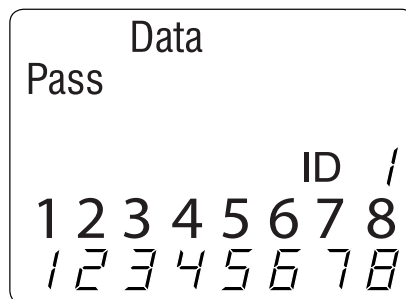

Figure 8. Data Mode Test
3. Single Test. To run a single test, press the DATA MODE button. The following appears in the display screen (see Figure 8):